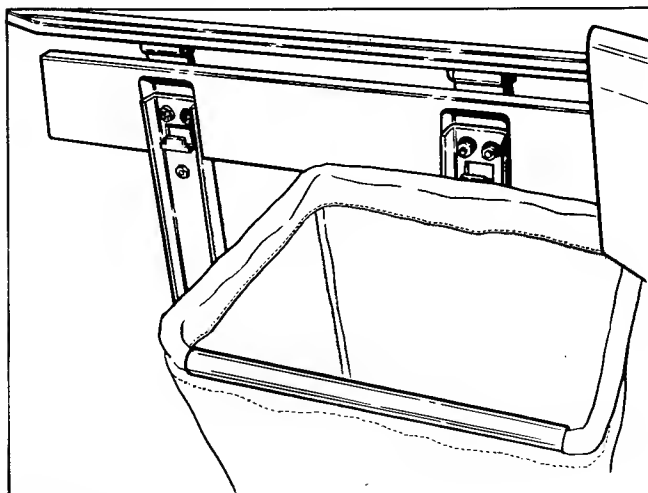

Figure 14.
17. Hang the bags onto the frame (figure 14) by hooking onto slotted bracket.